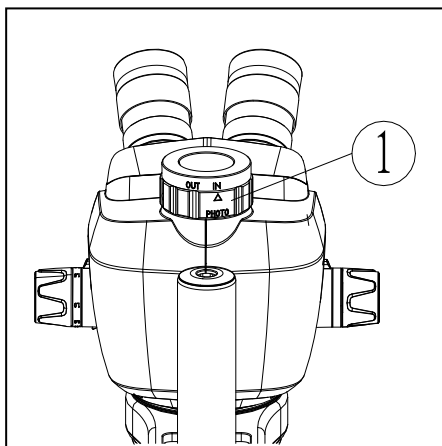

Fig 11
1. Through binocular light path to observe sample, please turn the switching knob① to **IN**. (Fig 11)
2. Through camera light path, please turn the switching knob① to **OUT**. (Fig 11)